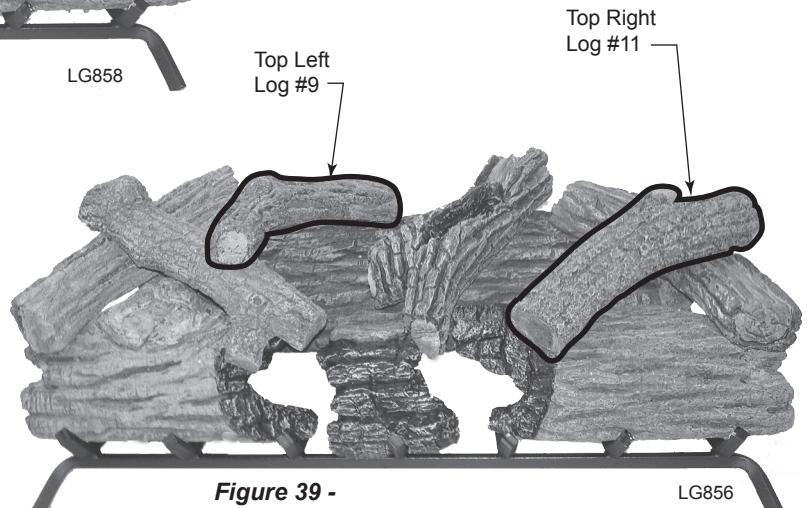

Figure 39 - Place Top Left Log
- 10. Install top left log #9. *Figure 39*
- 11. Install top right log #11. *Figure 39*